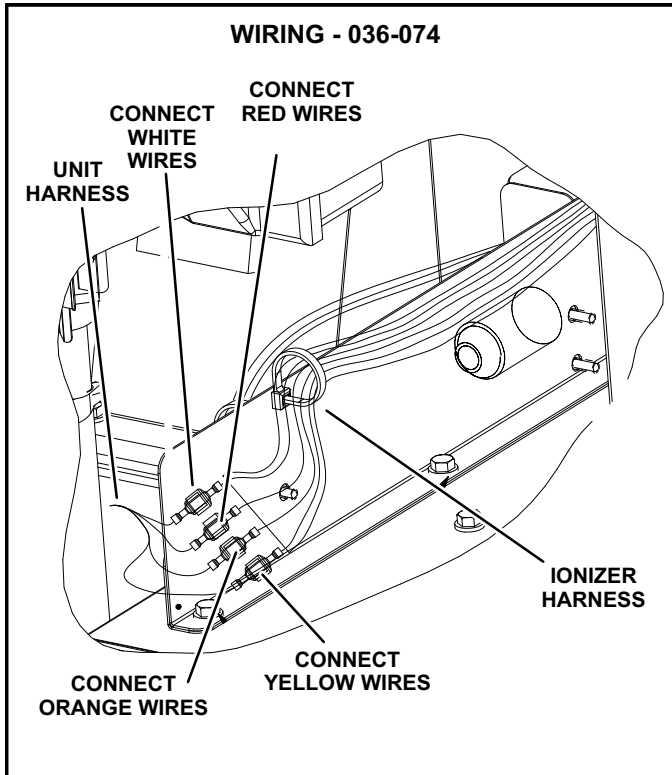

FIGURE 6
- Figure 6 - LGM/LCM/LGT/LCT/LHT/LDT024-074 Units